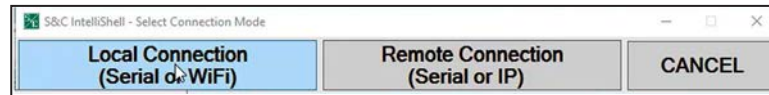

Figure 123. The IntelliShell Local Connection button.
STEP 1. Click on the **IntelliShell** button and click on the **Local Connection (Serial/Wi-Fi)** button. See Figure 123.